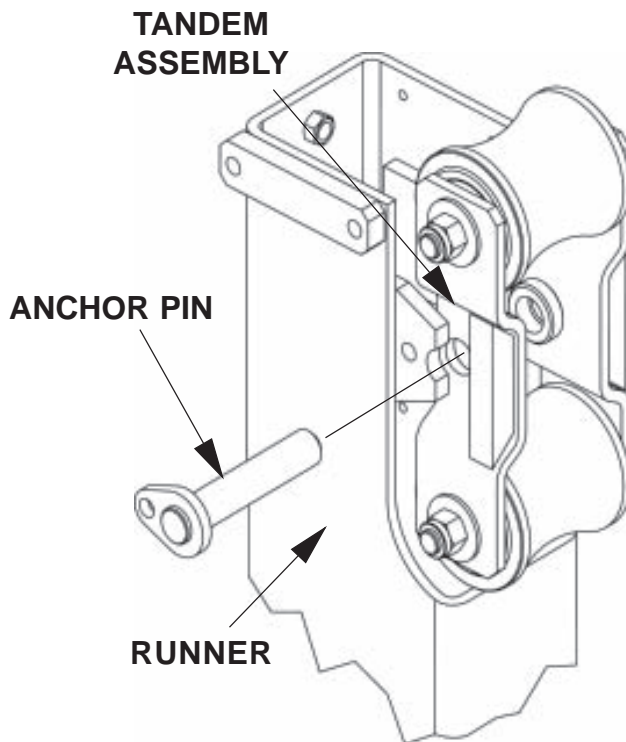

FIG. 12B
16. Place Tandem Assembly in replacement Runner as shown in **FIG. 12B**. Reinstall the Anchor Pin (**FIG. 12C**) that holds Tandem Assembly to Runner. Bolt the Anchor Pin to runner and tighten bolt (**FIG. 12C**).